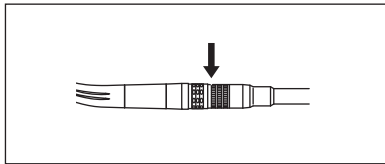

Fig. 39
- 3) Do not exceed the air pressure of 42.7psi (3.0bar). Air pressure readings must be checked at the coupling joint as shown in Fig. 39.